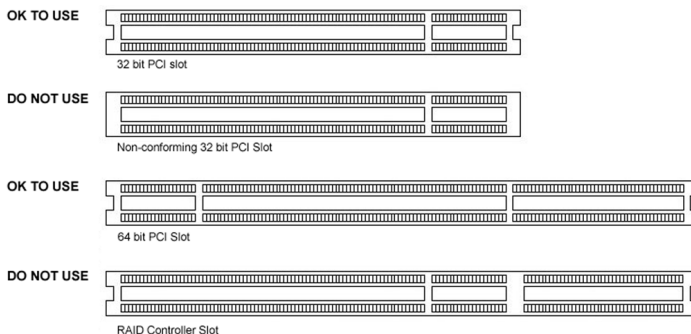

Figure 5: PCI and RAID Controller Slots
Although the BarcoMed Nio is a 64-bit board, it may be installed in either a 64-bit or 32-bit PCI slot. However, installing it in a 32-bit PCI slot will result in a decrease in performance. Figure 5 illustrates the types of slots so that you can correctly identify which one to use for the BarcoMed Nio.
4. Install the BarcoMed Nio display controller into a free PCI slot, either 64-bit or 32-bit (see figure 5, for examples of slots). Be sure that the display controller is seated firmly in the slot.